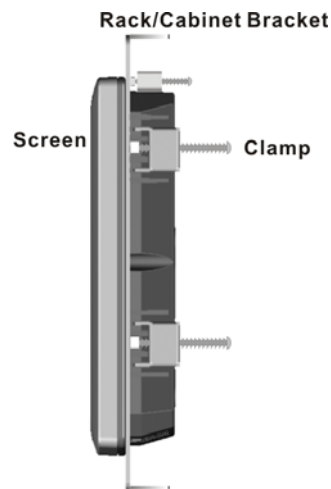

Figure 4-13: Secure the Rack/Cabinet Bracket
- Step 3:** Tighten the screws that pass through the rack mounting clamps until the plastic caps at the front of all the screws are firmly secured to the bracket (**Figure 4-13**).